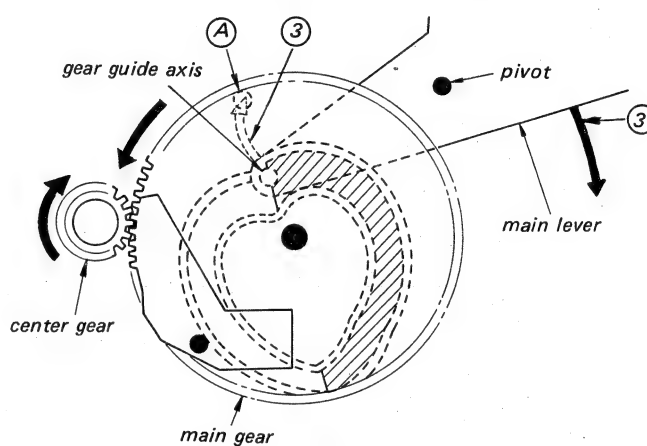
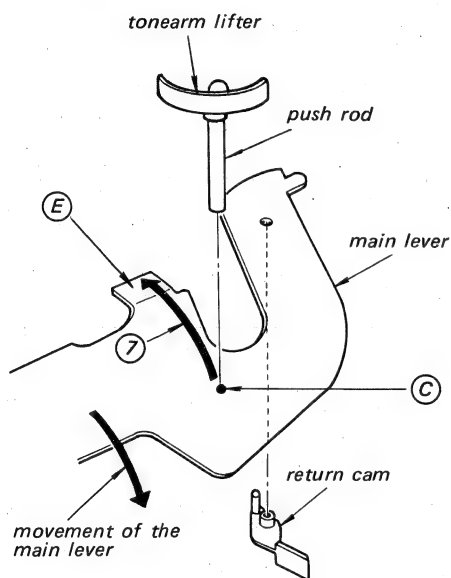
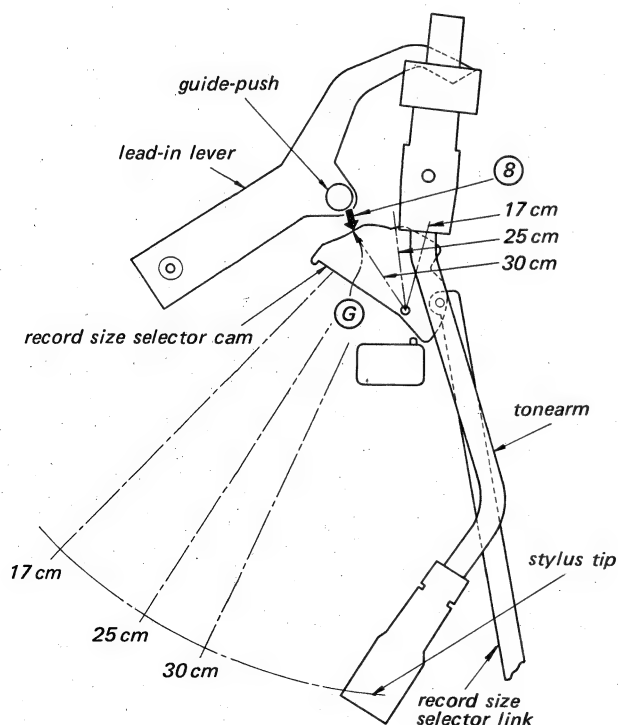
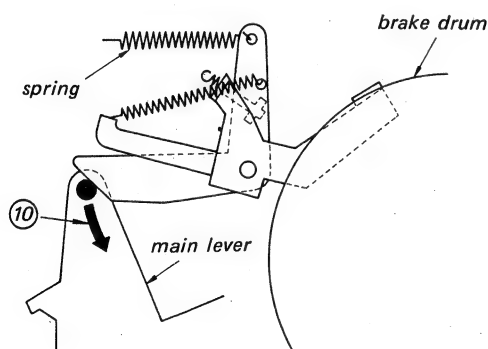

Fig. 3-3.
Fig. 3-5.
Fig. 3-6.
Fig. 3-8.
4. The gear guide axis at the tip of the main lever, is guided by the shaded section of the heart-shaped cam groove located on the main gear, moving across in a curved path ③ to position A. Therefore, the main lever moves in the direction of arrow ③. (See Fig. 3-3.)
1. The central axis of the push rod resting against the tonearm lifter is on the position ③ in STOP mode. (See Fig. 3-5.)
2. During lead-in, the main lever moves across in the direction of arrow ③' (See Fig. 3-3), resulting in the position of the central axis of the push rod moving across as shown by arrow ⑦. (Fig. 3-5.)
3. The guide-push stops at the position determined by the surface ⑥ (Fig. 3-6) of the record size selector cam. The push rod consequently descends to position ⑤ (Fig. 3-5), resulting in the tonearm lowering onto the surface of the record for the commencement of play.
4. The position where the tonearm lowers (30 cm, 25 cm, 17 cm) is determined by the position of the record size selector cam shown in Fig. 3-6. The guide-push of the lead-in lever moves across in direction of arrow ⑧ during lead-in; and meets the size selector cam at surface ⑥ (for the 30 cm example shown), thus determining the drop point at the outer edge of a 30 cm record. That is, this position determines the distance moved by the lead-in lever, which consequently determines the rotational angle of the brake drum (and of the tonearm as well).
5. The return cam attached to the main lever (see Fig. 3-5) pushes against the pin of the brake drum, forcing the tonearm to move back (horizontally) towards the arm rest.
6. The return operation is completed when the tonearm arrives back at the arm rest. The main gear comes to a stop in the position shown in Fig. 3-3.
Furthermore, a spring is also employed to exert pressure upon the main lever in the direction of arrow ⑩ (see Fig. 3-8), thus keeping the main gear in the stop position. (See Fig. 3-3.)